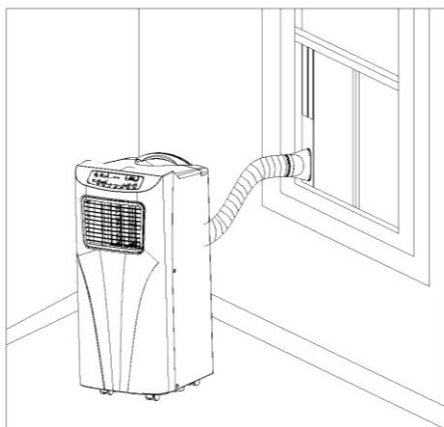
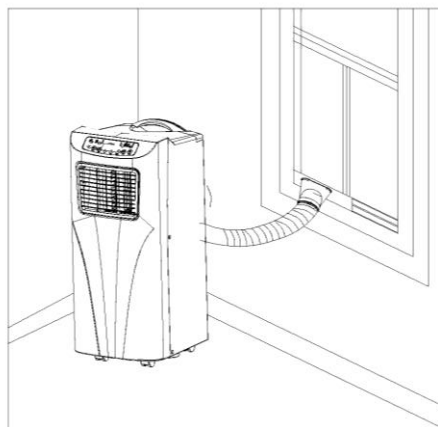

Figure 5
Figure 6
2) Elongate the exhaust pipe (as shown in Fig.5 and Fig.6) .